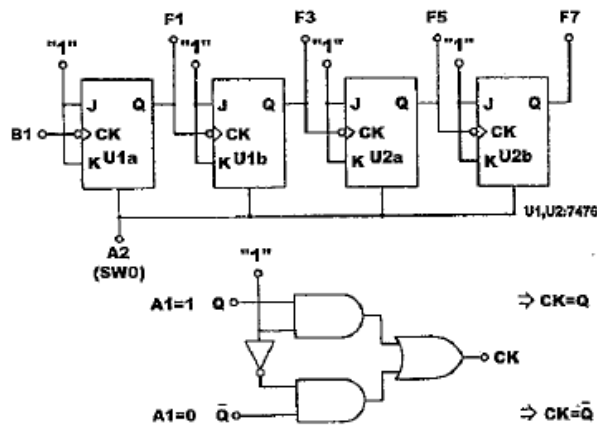

Figure 1.1
1. Follow the circuit scheme in **Figure 1.1** to construct the circuit of **Figure 1.2**.